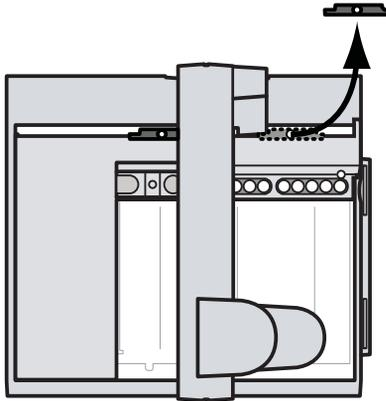

Figure 6 Removing the two plastic shipping clamp pieces
- 3 Remove the two plastic shipping clamp pieces from the sample tray and discard (Figure 6)